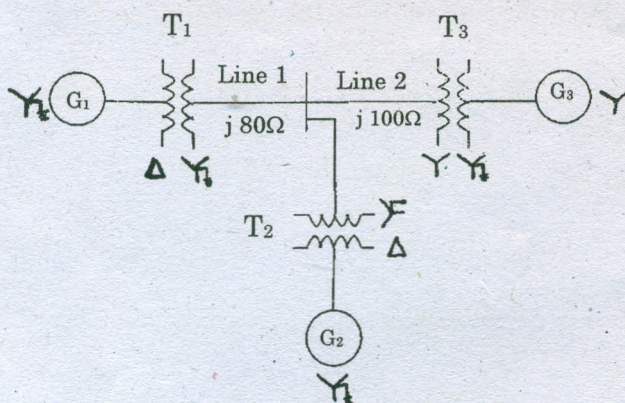

Fig. 1
11. (a) Draw the reactance diagram for the power system shown in fig. 1. Neglect resistance and use a base of 50MVA and 13.8KV on generator  $G_1$